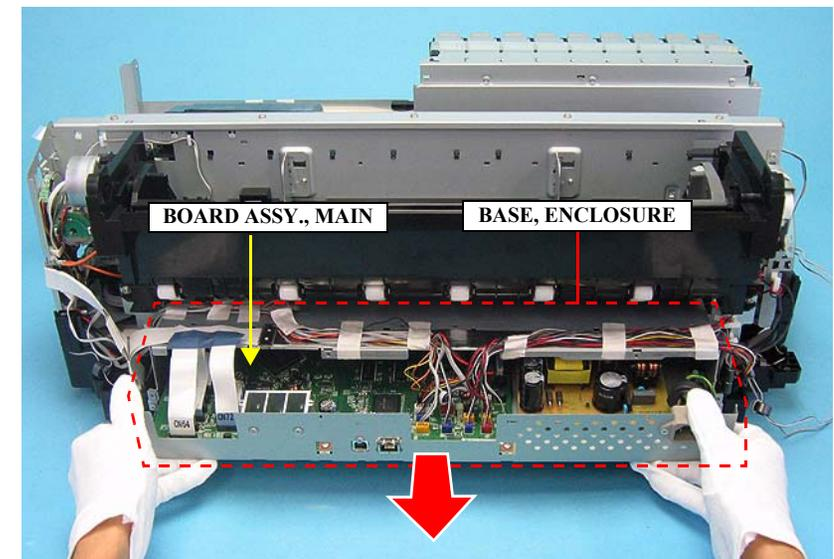

Figure 4-28. Removing the BASE, ENCLOSURE
11. Pull out the BASE, ENCLOSURE from the back of the printer. See Figure 4-28.